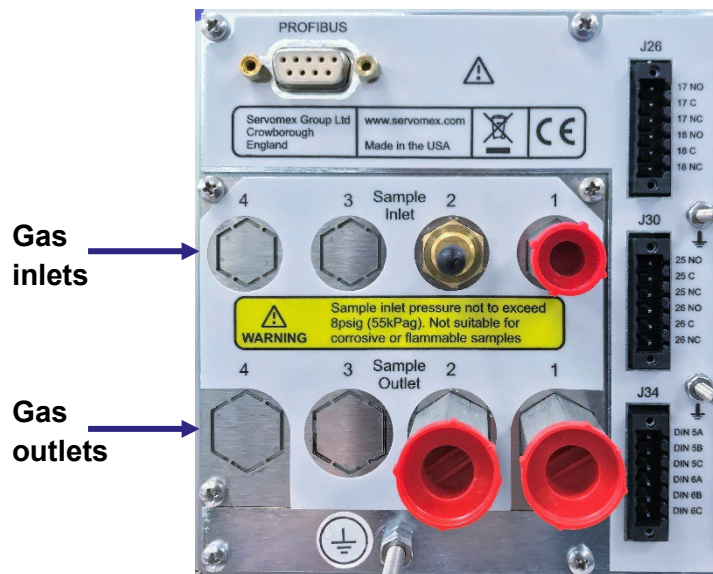

Figure 2-1: Gas inlets and outlets on rear of the analyzer
2. Remove the protective plastic covers from the sample gas inlets and outlets on the rear of the analyzer (Figure 2-1).